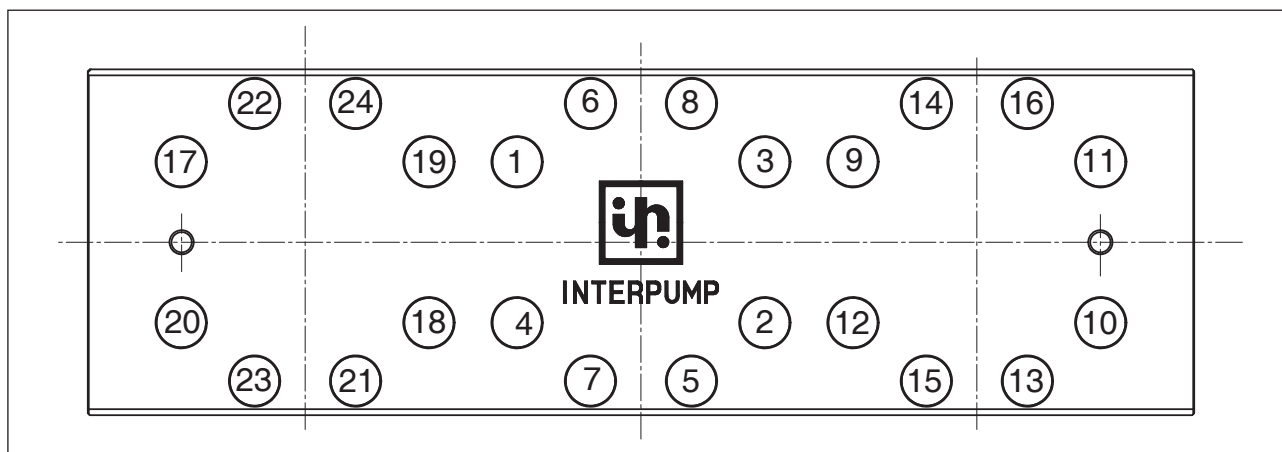

Fig. 197
**Tighten the 24 M16 screws as shown in the diagram in Fig. 197.**